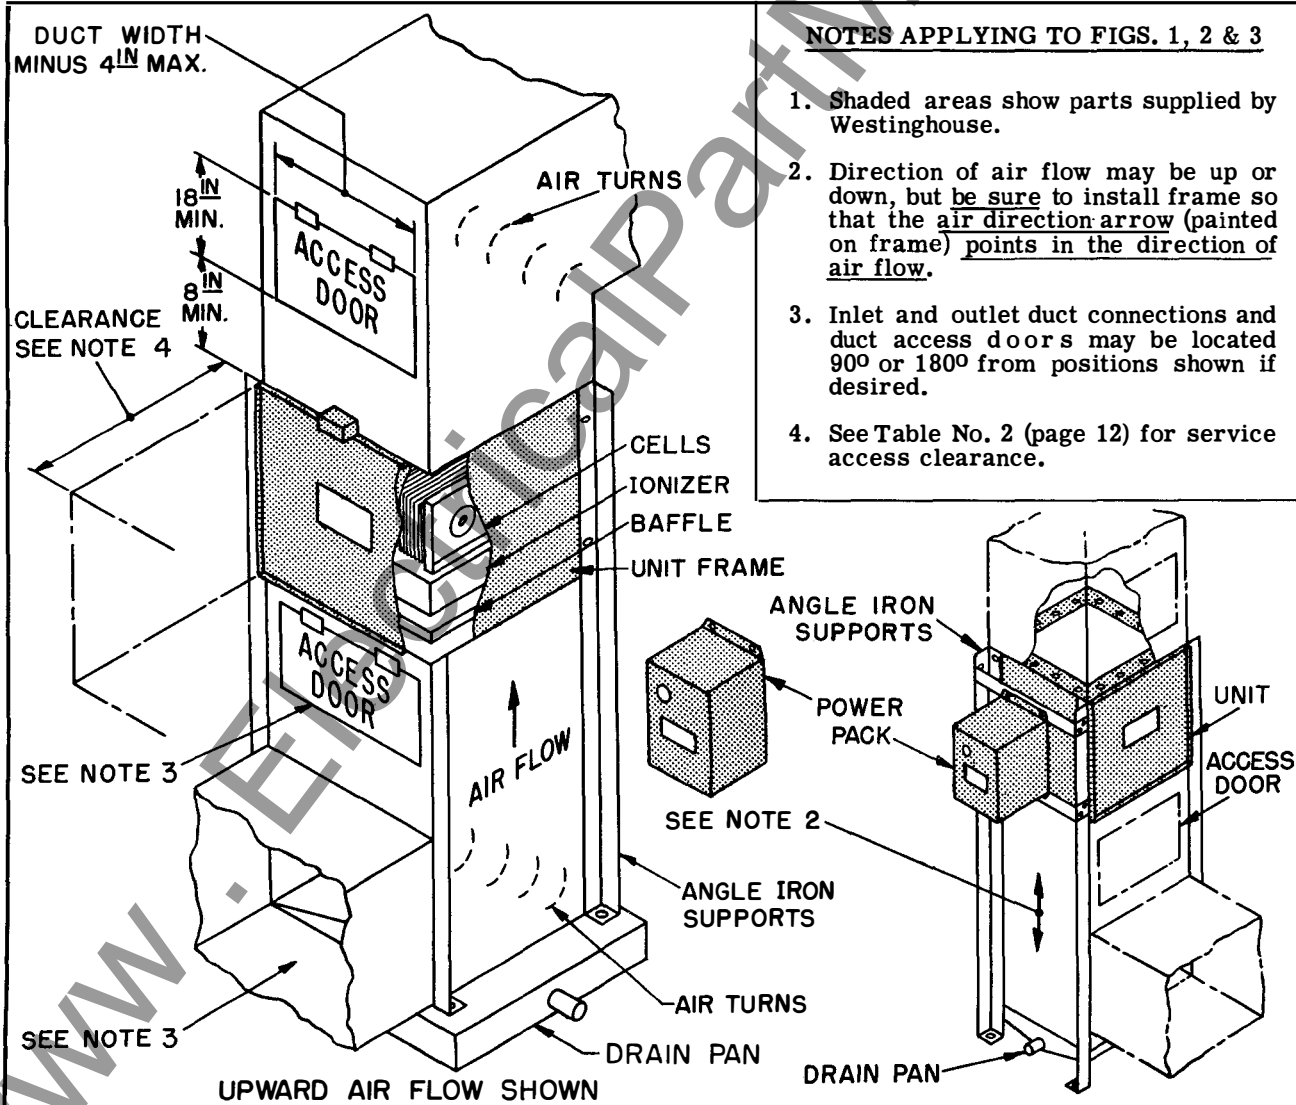
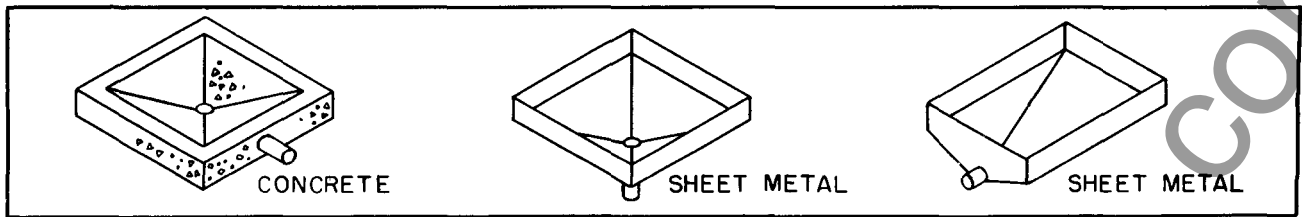

Fig. 1. Suggested Methods of Mounting on Floor
Fig. 7. Suggested Types of Drain Pans (2" Min. Dia. Drain Pipe)
access panel. See Fig. 1. This space is needed for inspection, servicing and removal of the internal parts. 30" clearance is likewise recommended in front of duct access doors.
**Mounting.** Type PV PRECIPITRON unit frame may be suspended from the floor, ceiling or wall as shown in Figs. 1, 2 and 3. The supporting members should be sized in accordance with good engineering practice to prevent swaying or buckling of the frames. Approximate net weights of frames, complete with internal parts are given in Table No. 2 (page 12).
**Drain.** A drain pan should be provided as indicated in Figs. 1 & 2 for catching wash water during servicing. See Fig. 7 for suggested types. The pan should be piped to the sewer in accordance with good plumbing practice using 2" min. pipe size. The drain pan connection to the duct should be water tight. Locate the pan so that ducts below the unit frame may be pitched toward the pan.
**Ducts.** Typical duct connections are shown in Figs. 1 & 2. Duct work must be of tight construction to prevent air leaks; particularly leakage of uncleaned air into the cleaned air stream.
**Duct Access Doors** above and below the frame are recommended to facilitate inspection and servicing. Doors should be gasketed and provided with latches to prevent leakage of air and wash water. See Figs. 1 & 2.